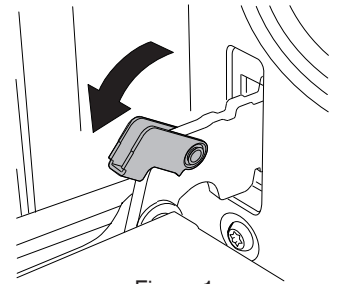

Figure 1
1.) To remove the door, open the door to the maximum angle. Then pull the buckle at the door hinge backward (Figure 1).